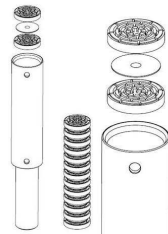

fig. 24
- Hold the whipping pipe in vertical position (the side with the gasket on top) and insert the pushing rod from the bottom. Insert a whipping disc, add an intermediate disc (cone down). Alternating, add the remaining whipping discs (13 pcs.) and intermediate discs (12 pcs.), resp. insert the entire whipping column. (fig. 24)